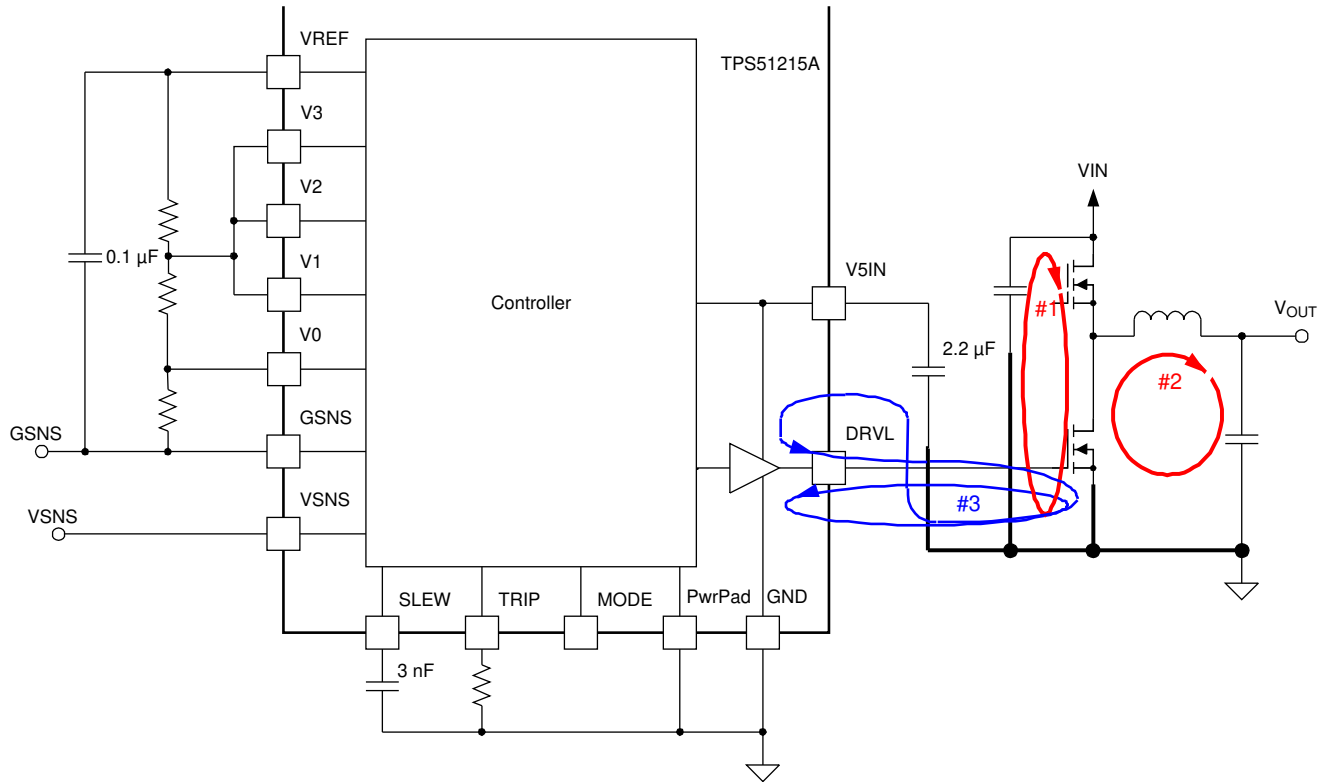

Figure 26. DC/DC Converter Ground System
- Loop #1. The most important loop to minimize the area of is the path from the V_{IN} capacitor(s) through the high and low-side MOSFETs, and back to the capacitor(s) through ground. Connect the negative node of the V_{IN} capacitor(s) and the source of the low-side MOSFET at ground as close as possible. (Refer to loop #1 of Figure 26)
- Loop #2. The second important loop is the path from the low-side MOSFET through inductor and V_{OUT} capacitor(s), and back to source of the low-side MOSFET through ground. Connect source of the low-side MOSFET and negative node of V_{OUT} capacitor(s) at ground as close as possible. (Refer to loop #2 of Figure 26)
- Loop #3. The third important loop is of gate driving system for the low-side MOSFET. To turn on the low-side MOSFET, high current flows from V_5 capacitor through gate driver and the low-side MOSFET, and back to negative node of the capacitor through ground. To turn off the low-side MOSFET, high current flows from gate of the low-side MOSFET through the gate driver and PGND, and back to source of the low-side MOSFET through ground. Connect negative node of V_5 capacitor, source of the low-side MOSFET and PGND at ground as close as possible. (Refer to loop #3 of Figure 26)